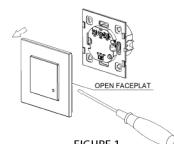

FIGURE 1
- Unload the faceplate of sensor and adjust the time and LUX knob.(refer to figure 1)